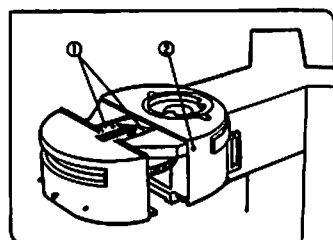

Fig. 5
★ The cube indices A, B, C, D (2) on the dovetail mount correspond to the turret's A, B, C, D indices (1). Make sure to match the attached cube correctly with the position of the removed magnetic index sticker on the turret. (Fig. 5)
4 Mounting the Cube Housing (Fig. 5)